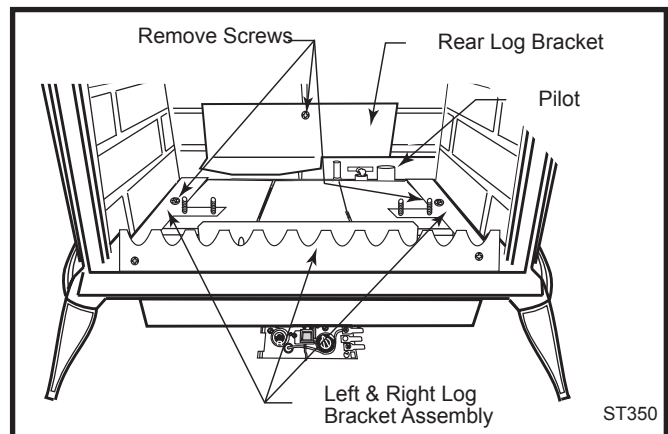

Fig. 53 Remove rear log bracket and left and right log bracket assembly.
9. Remove the rear log bracket by removing the screw. (fig. 53)
10. Remove the right and left log bracket assembly by removing the two screws which hold the burner in place. (Fig. 53)
12. Locate pilot. (Fig. 53)